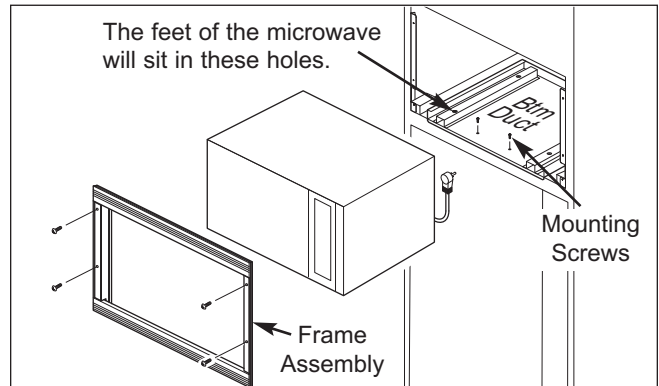

Figure 2. Microwave Install in Cabinet Opening
1. Center the bottom duct assembly in the opening. Secure assembly to the base of cabinet opening, using #8-15x1/2" truss head screws (See Figure 2).
2. Plug power cord in. Carefully guide microwave into opening, lining up feet of microwave with holes in bottom duct assembly. **NOTE:** Verify that the power cord is not pinched between the microwave oven and the wall. Then lower microwave onto bottom duct assembly (See Figure 2).